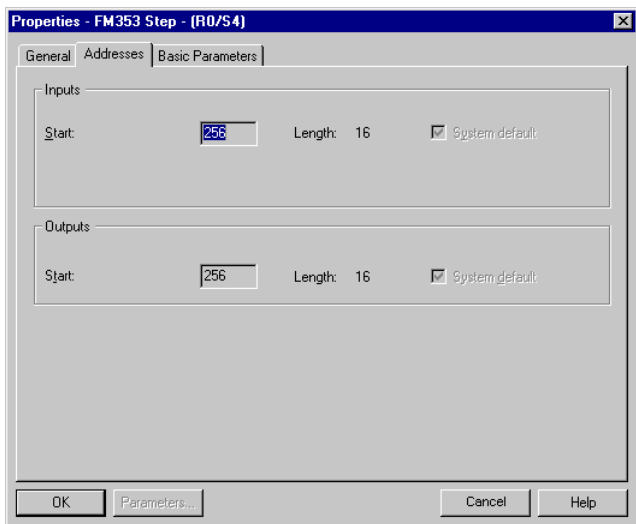

Figure 18 "Properties... Addresses" tab
4. In the "Hardware Configuration" window, double-click with the left mouse button on the "FM 353 for Step Motor" item. This opens the "Properties - FM 353 Step ..." dialog box (Figure 18).
5. Click on the "Properties... Addresses" tab (Figure 18). This displays the base address of the controller board specified by the slot.